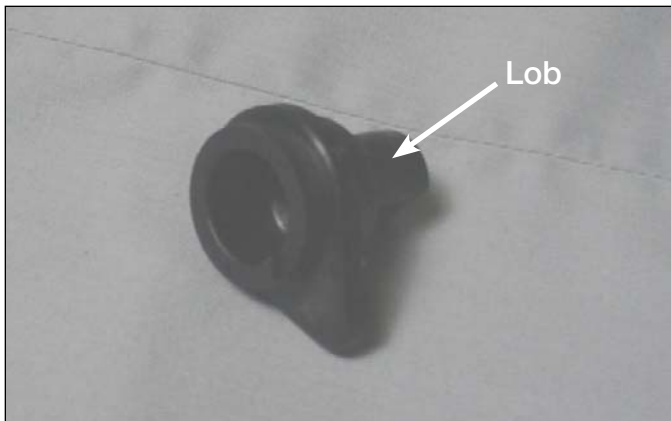

Figure 27.
7. Place the neutral position pointer lobe, see Figure 27, into the main movable contact hub located in the lower front center of the drive assembly panel. See Figure 28.